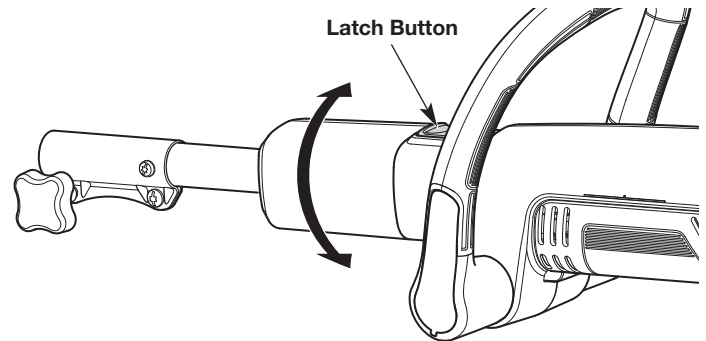

Fig. 2
1. Push the latch button down firmly and rotate the extension boom to the desired position (Fig. 2).